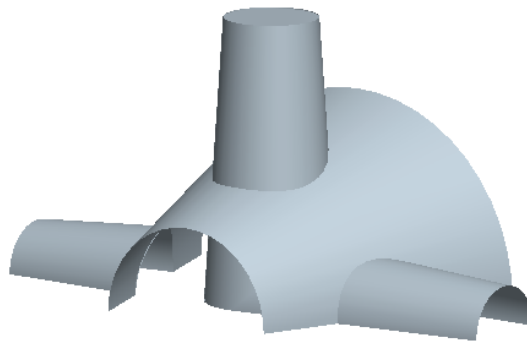

Figure 13-79 Surface model after merging the two surfaces
- f. Next, individually the surfaces will be selected to merge, refer to Figures 13-79 and 13-80.
4. Exit the dashboard by selecting the **Build Feature** button. The model after merging the two surfaces is shown in Figure 13-79.